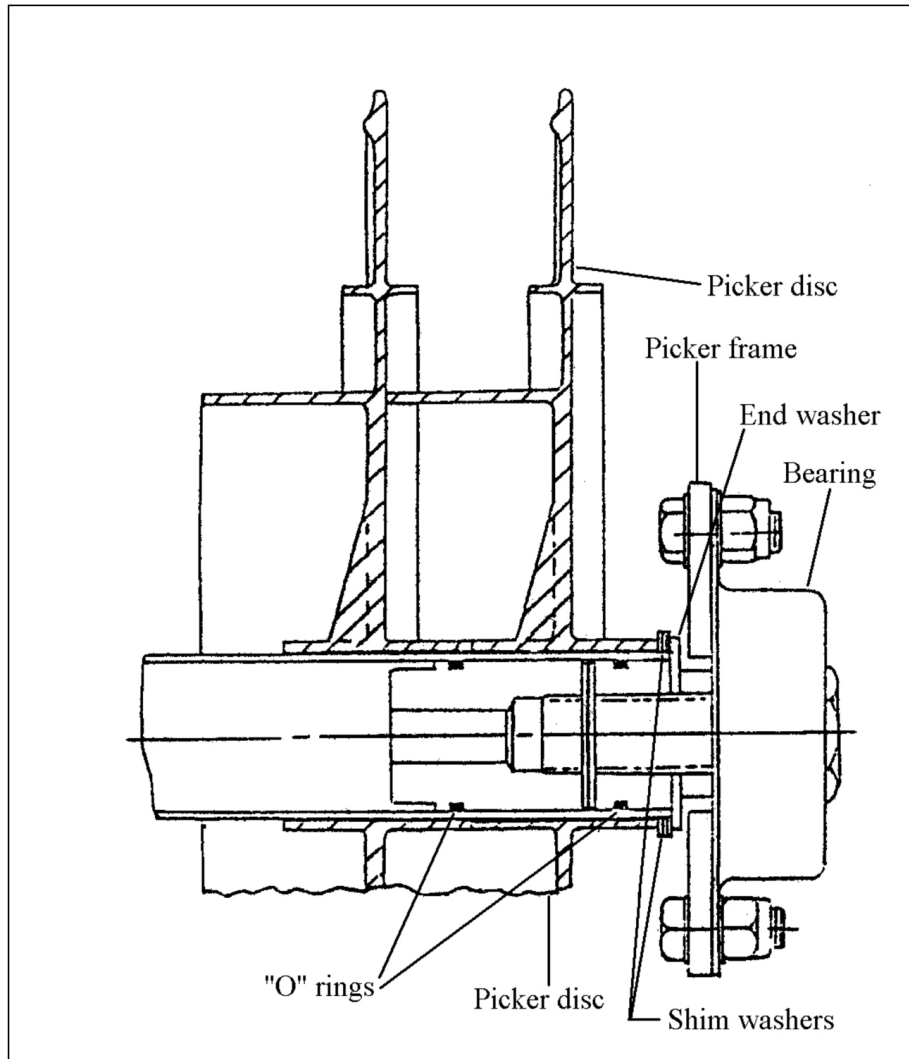

Figure 7: Disc spool and frame, assembled
14. Put the spool back in the frame (see Figure 7). Center the spool on the axle with shim washers, as necessary.